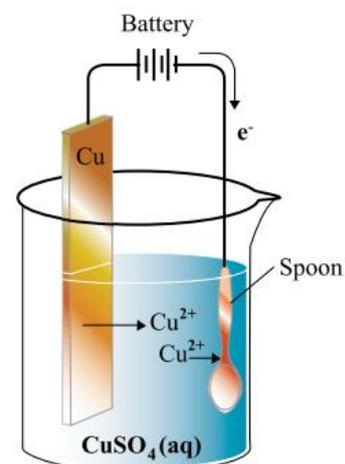

Figure 27.1: Electroplating with copper
3. Connect the carbon electrode or object to the negative terminal of the 12 V DC power supply using electrical leads with alligator clips as shown in figure 27.1. Connect the copper electrode to the positive terminal. Lower the electrodes into the solution.
1. Redraw figure 27.1 and include labels for the anode, cathode, electrolyte and the direction of movement of the electrolyte cations and anions and the flow of electrons in the external circuit.